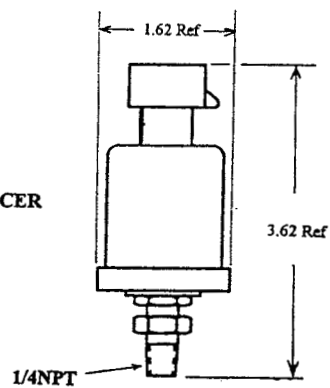

FIGURE 4
The pressure Transducer (Figure 4) has a 1/4" NPT male thread.
1. Prior to calibration, the Pressure Transducer (**Figure 4**) must be installed into provided $\frac{1}{4}$ ” NPT pressure port. Typically in a valve discharge adapter or piping.